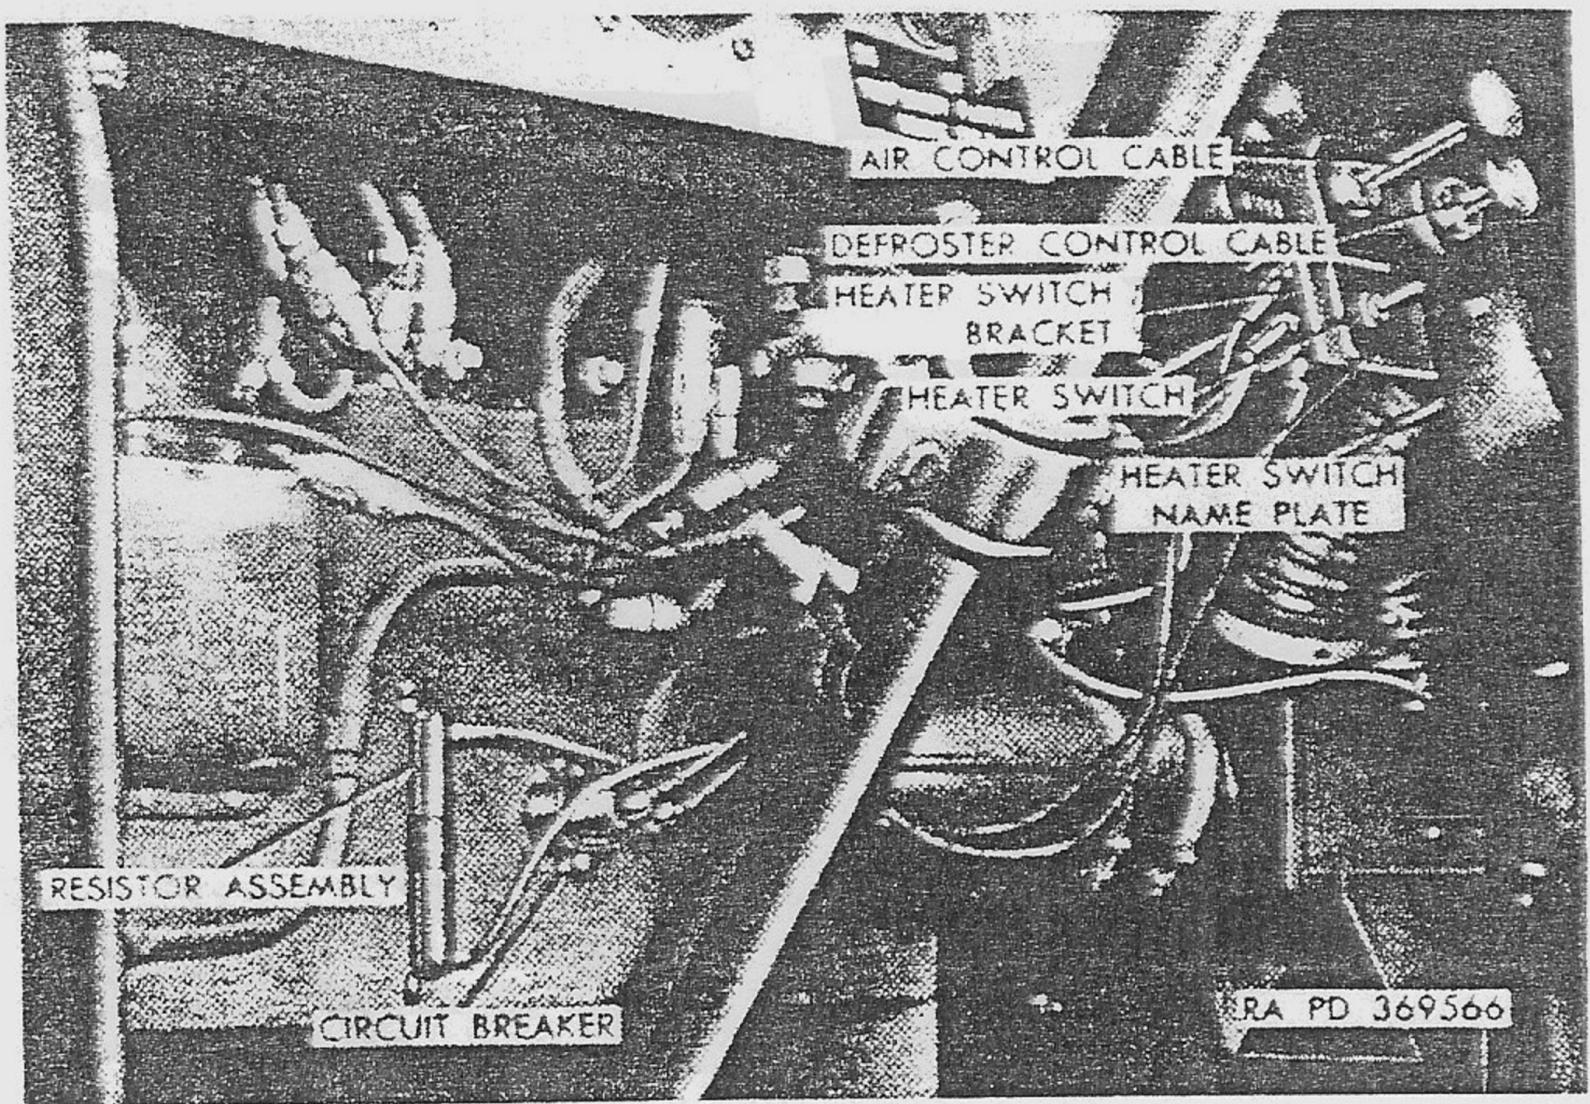

Figure 12. Installation of heater control cables, switch, resistor, and circuit breaker.
b. Drill two holes in firewall with a No. 30 drill and install the resistor assembly (R, fig. 1) with two No. 6 tapping screws 164327 and internal-teeth lockwashers 138526 as shown in figure 12. Drill two holes in firewall with a No. 30 drill and install circuit breaker (EE, fig. 1) with two No. 8 machine screws 132772, hex nuts 120622, and internal-teeth lockwashers 138530 as shown in figure 12. Drill two holes directly under control cable "Air" name plate and install heater switch bracket (Q, fig. 1) with two 1/4-20 x 5/8 hex-head cap screws 120706, hex nuts 120375, and internal-external-teeth lockwashers 174916 as shown in figure 12.
c. From the left side of the vehicle cab, break the connection on vehicle wiring harness cable No. 11. Connect the 8-inch wiring cables (V and W, fig. 1) to No. 11 cable at this point. Install connector (AA, fig. 1) to the other ends of 8-inch cables. Attach 13-inch wiring cable (U, fig. 1) to connector and run opposite end to one terminal post of circuit breaker (fig. 12). Connect 13-inch wiring cable (T, fig. 1) to remaining terminal post on circuit breaker and run it to "OFF"-position terminal of the
heater switch (S, fig. 1). Connect the top cable from the resistor assembly to "HIGH" position terminal of the heater switch, also connect the free end of the 91-inch wiring cable assembly (FF, fig. 1) which enters the cab through the firewall, to "HIGH" position terminal on heater switch. Connect the lower cable from the resistor assembly to "LOW" position terminal on heater switch. After all wiring is secured to heater switch, install switch onto the heater switch bracket (fig. 12). Position heater switch name plate (NN, fig. 1) on top of switch and secure switch and plate with locking nut as shown in figure 12.